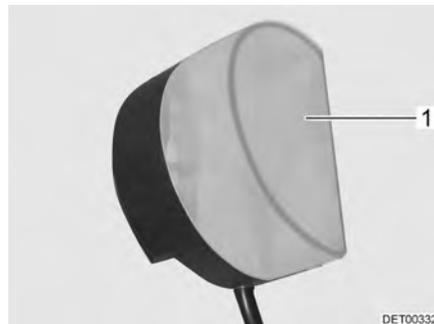

Fig. 207 Wardrobe light
- Press the light covering (Fig. 207,1) lightly together and remove it.